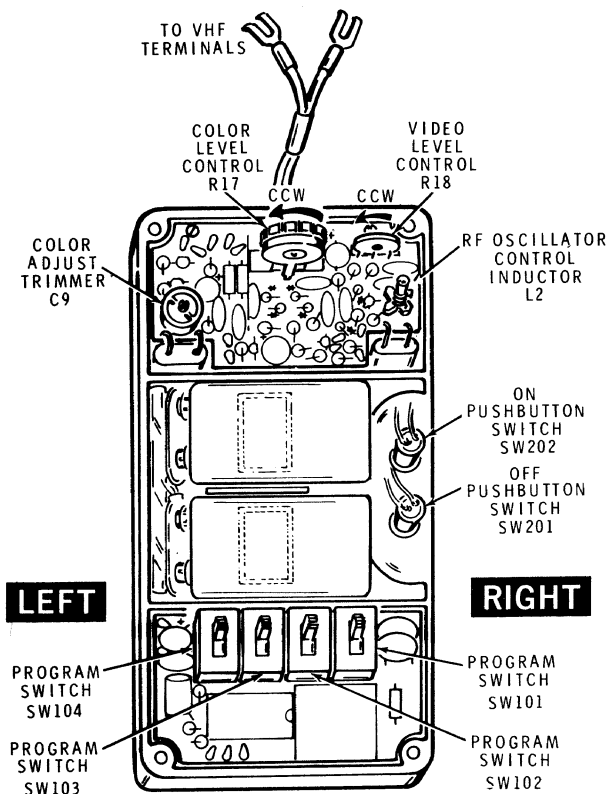

Figure 3
- () Refer to Figure 3 and preset the controls and switches as follows: